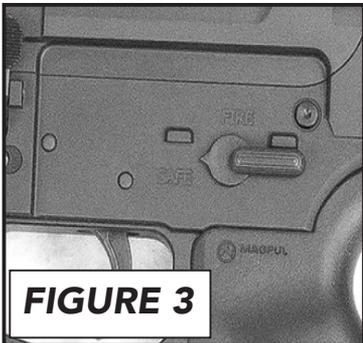

FIGURE 3
9. If you wish to stop firing, release trigger, remove finger from trigger guard, and set safety selector to "SAFE" (**Figure 3**). If you have fired the last round from the magazine, the bolt will be held to the rear so the firearm can quickly be reloaded by replacing the magazine, or the chamber can be inspected to ensure that it is empty.